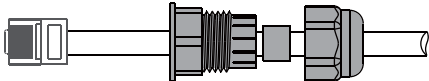

Figure 4.5-4 Remotely close the cable connection
Step 3-2 For Remote Shutdown. Run the cable through the steel plate . Then wire from pins 5 and 6. Table 4.6-1 describes the 6-pin port definition,Wiring is shown in Figure 4.5-4.